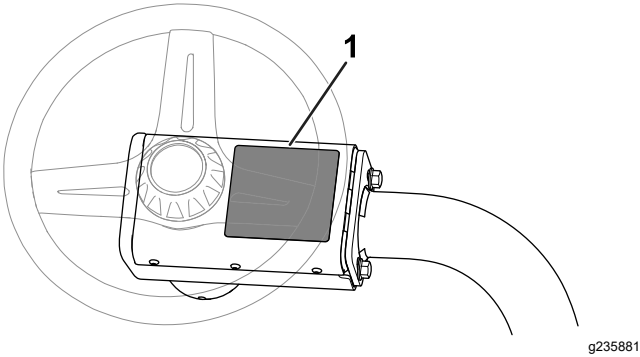

Figure 12
- **CE warning decal**: Apply the CE warning decal (Part Number 139-8321) over the existing warning decal (Part Number 139-8320) on the steering-wheel cover; refer to Figure 12.